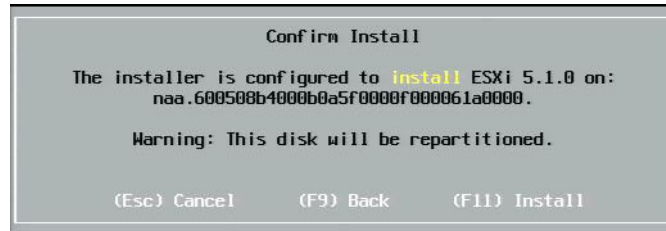

Figure 14-24. ESXi Confirm Install
7. On the Confirm Install window (Figure 14-24), press the F11 key to confirm the installation and repartition.